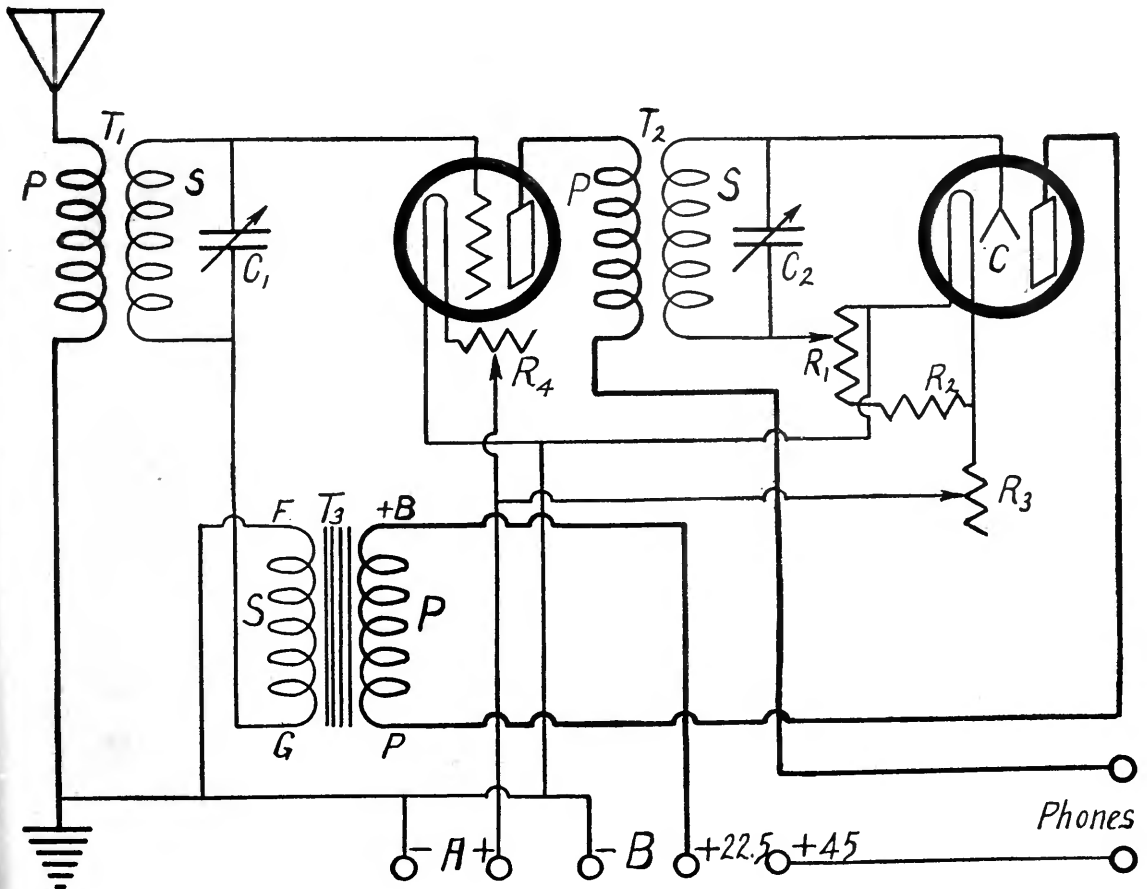
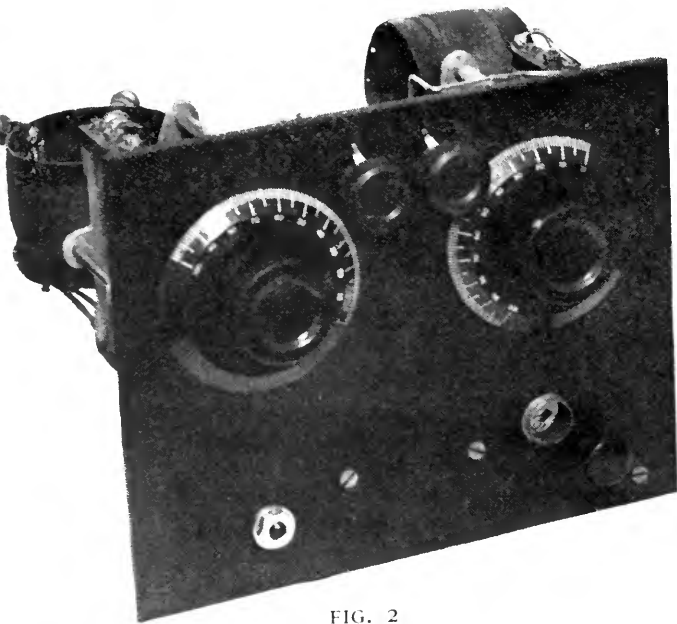

FIG. 1
FIG. 2
Connection of wavemeter circuit of Fig. 1 as a wavetrap. The meter vacuum tube circuit is omitted in this case
Connection of wavemeter circuit in Fig. 1 as wave trap in loop receiver. The vacuum tube circuit is omitted as indicated by the dotted lines
By the addition of the units shown here the wavemeter of Fig. 1 may be used as one stage of tuned radio-frequency amplification with any receiver. The .00025 condenser may be variable, as shown by the dotted arrow
The Sodion detecting circuit is a simple one, and it was illustrated fundamentally in the Lab department for last month. The input and output circuits are similar to those of the standard tube, and Fig. 1 shows the manner in which the Sodion bulb is substituted for the crystal detector.
Returning to Fig. 1: R1 and R2 may be a single resistance, a standard potentiometer of about three hundred and fifty ohms. But, as the required variation of resistance is generally confined to a comparatively small ohmage on the negative side of the potentiometer, the Connecticut Telephone and Electric Company, Meriden, Connecticut, has designed two resistances, a variable and a fixed one, respectively R1 and R2. The variable
**I**F YOU have built up a set according to original description which appeared in November, the Sodian tube detector may be added to it in accordance with the circuit of Fig. 1, and as shown in Figs. 2, and 3,